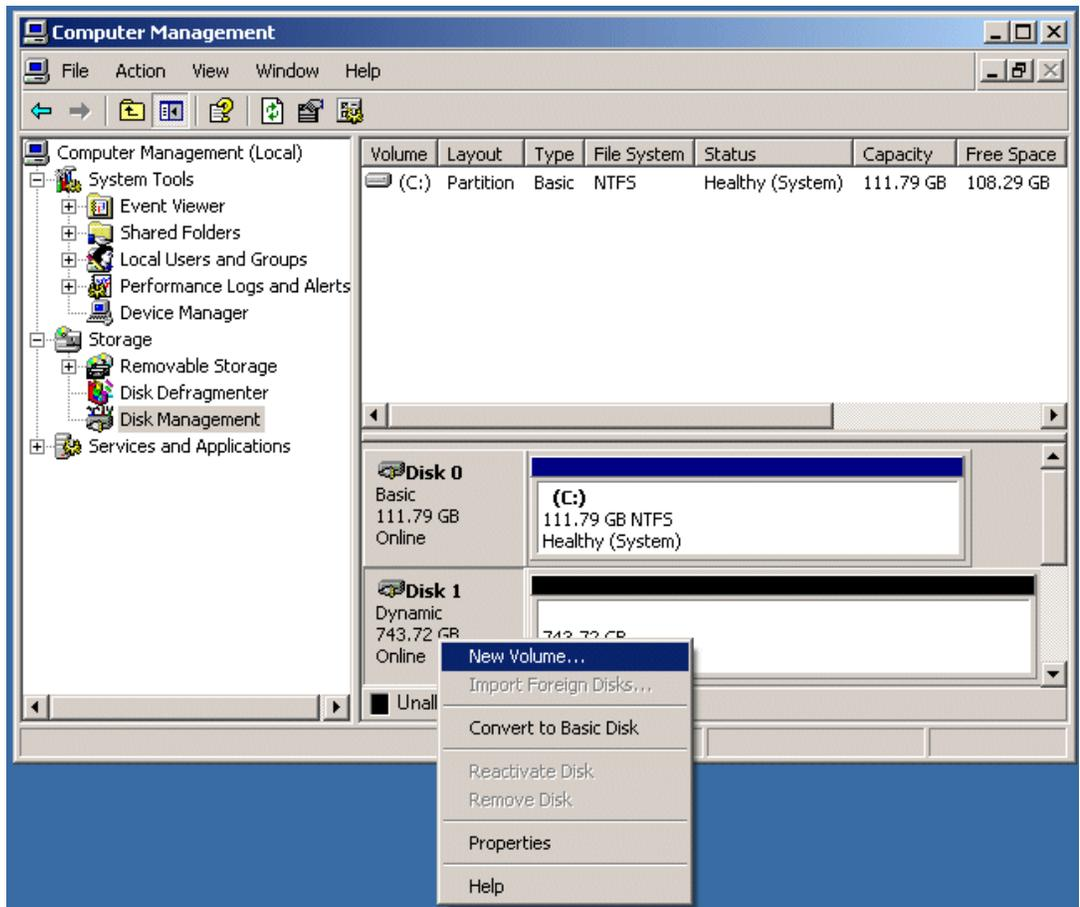

Figure 2-22. Select the New Volume option
22) Now, right-click on the **Disk 1** item in the lower-right-hand portion of the screen, and then select the **New Volume** option from the ensuing pop-up menu as shown in Figure 2-22.